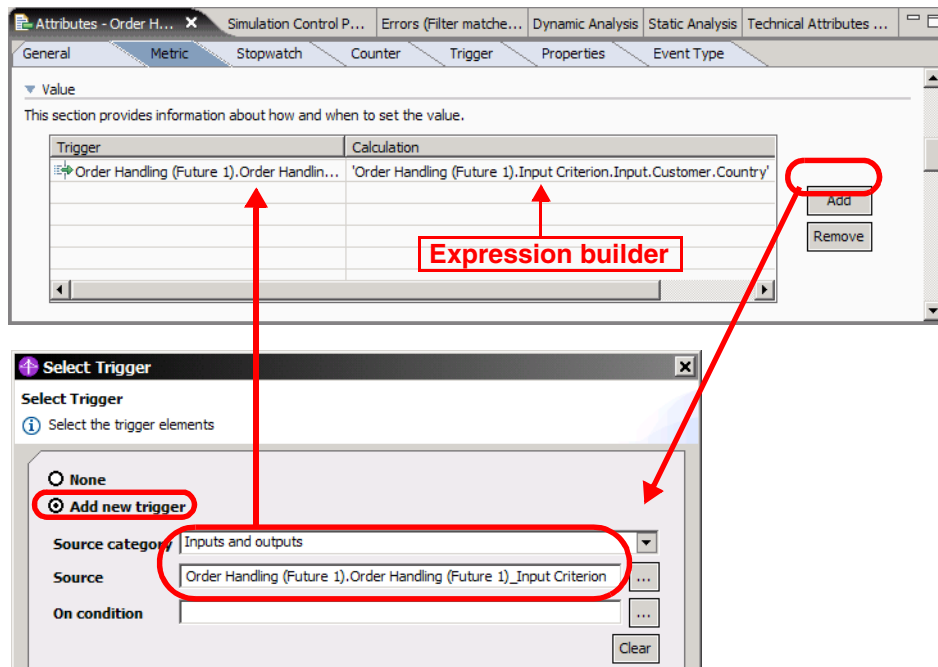

Figure 8-26 Using a trigger to set the value of a metric
- ▶ Click in the Trigger field and create a new trigger (Figure 8-26):